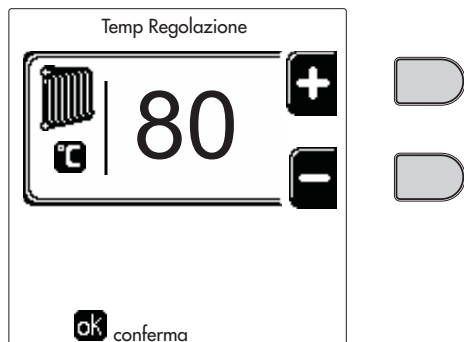
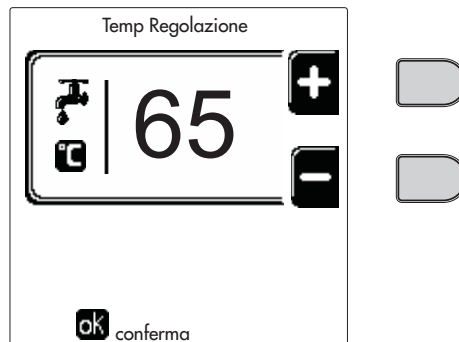

fig. 12
fig. 14
- **ON**. In case of a Heating/DHW demand, the boiler works at the set Heating/DHW (fig. 12/fig. 14) Adjustment Temperature.
- **ir**. In case of a Heating/DHW demand, the boiler works at the Reduced Adjustment Temperature. The Reduced temperature is obtained by subtracting the Reduction Adjustment Temperature value (fig. 13/fig. 15) from the set Heating/DHW Adjustment Temperature (fig. 12/fig. 14).